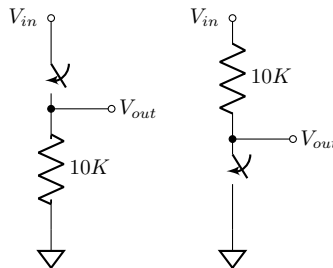

Figure 6: Left: A switch *Pulled Down* with a resistor. Right: A switch *Pulled Up* with a resistor.
1. Setup the pull-down setup shown in Figure 6 with +5V as a source voltage. Use a wire you move in and out of the breadboard as a switch. Attach your oscilloscope to V_{out} .